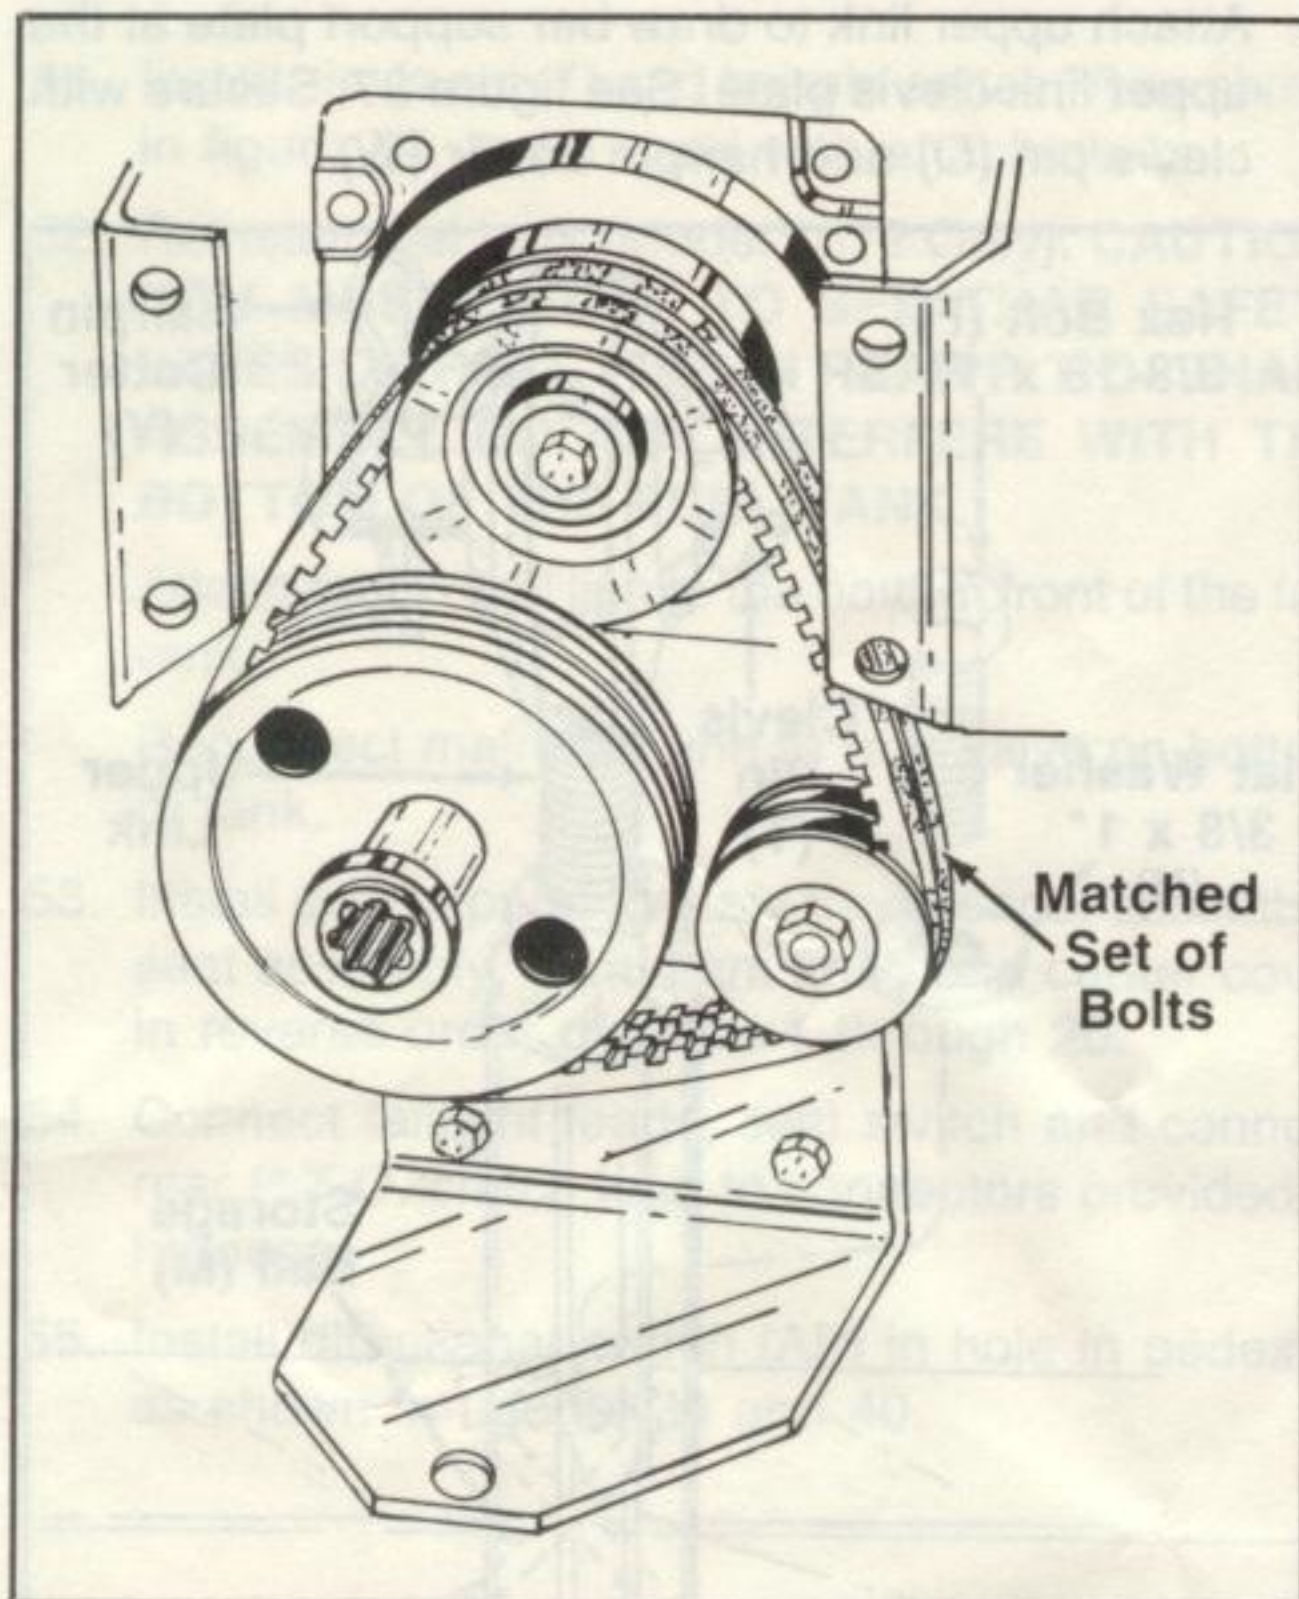

FIGURE 31.
40. Install matched set of belts (17) onto pulleys as shown in figure 31.